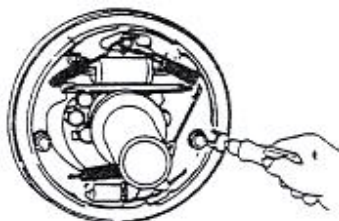

Figure 2-16
(1) Remove the support pin, regulating bar, regulating device and spring on the auxiliary brake shoe. See figure 2-16